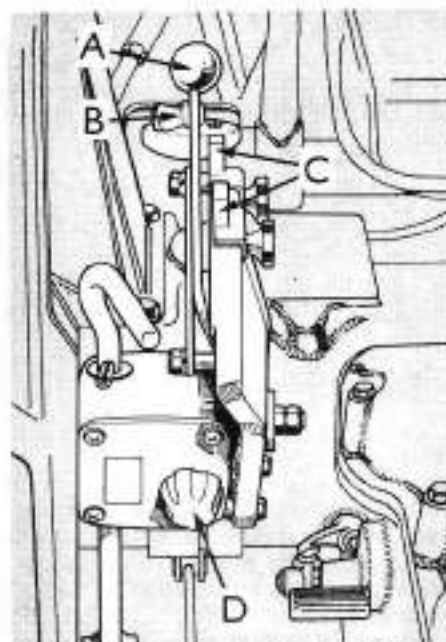

Fig. 168 — Drawing showing hydraulic system controls. Refer also to Fig. 169 and 170.
For explanation of system operation, refer to the following paragraphs 221 through 224. Schematic diagram of the system is shown in Fig. 167 and Figs. 168, 169 and 170 show views of the hydraulic system controls. NOTE: To move selector dial (B—Fig. 169) to different position, the control lever (A) must be held fully rearward against spring pressure.